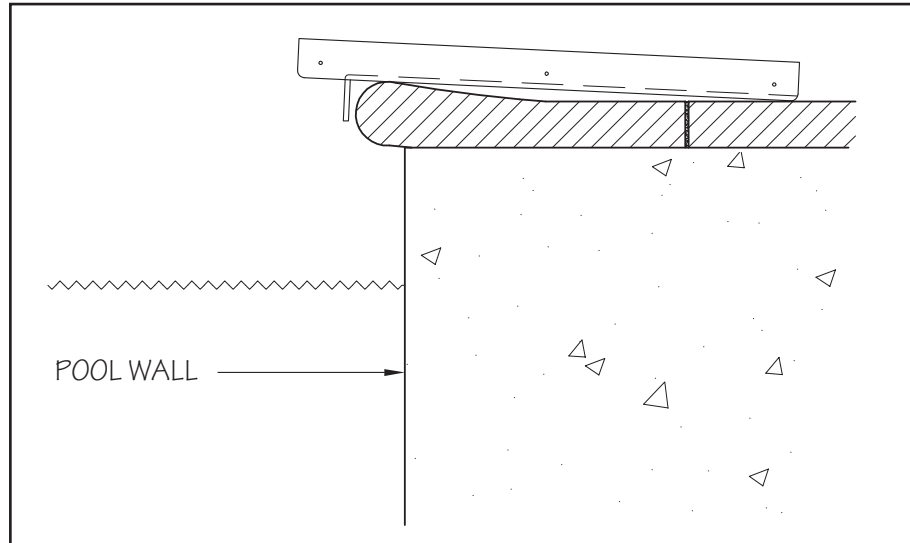

Fig. 8.1
- 8.2 Position the hose cover tray onto the pool deck so that the vertical lip of the tray is seated firmly against the coping. The tray will be centered to the Fastlane. If the pool has bullnose coping it is acceptable for the hose cover tray to be slightly out of level as shown in figure 8.1.